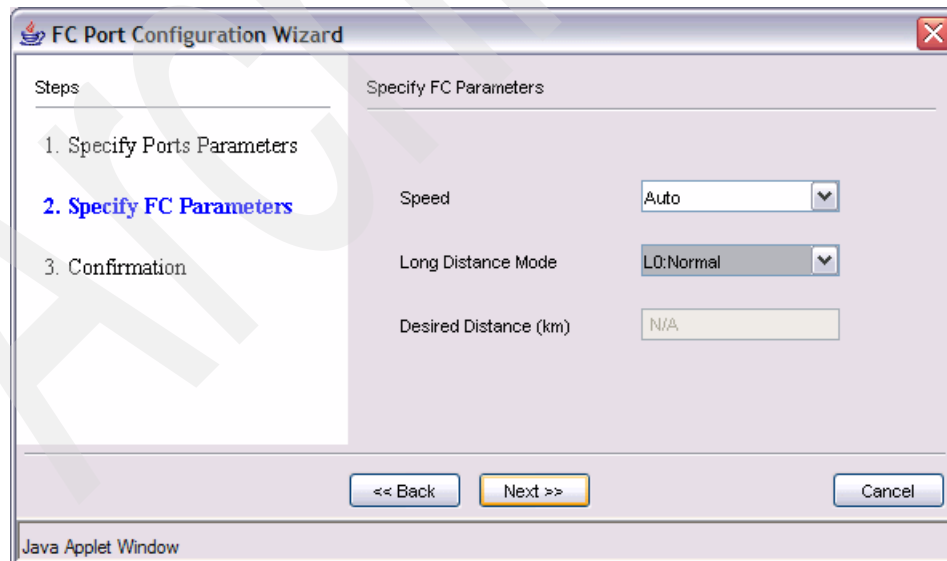

Figure 6-82 FC Parameters
5. We define the FC parameters, Speed and Long Distance Mode, as shown in Figure 6-82.